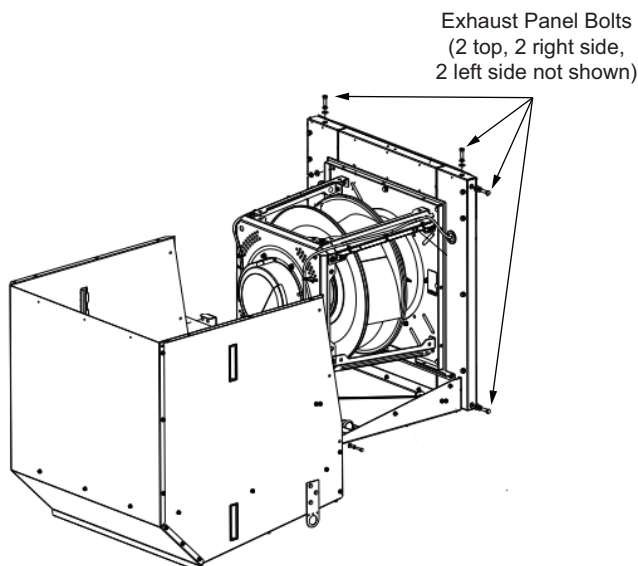

Fig. 39 — Power Exhaust Panel Bolt Positions
5. Remove the 6 bolts securing the exhaust panel in place (2 on top, 2 on each side). Save bolts and hardware. See Fig. 39.